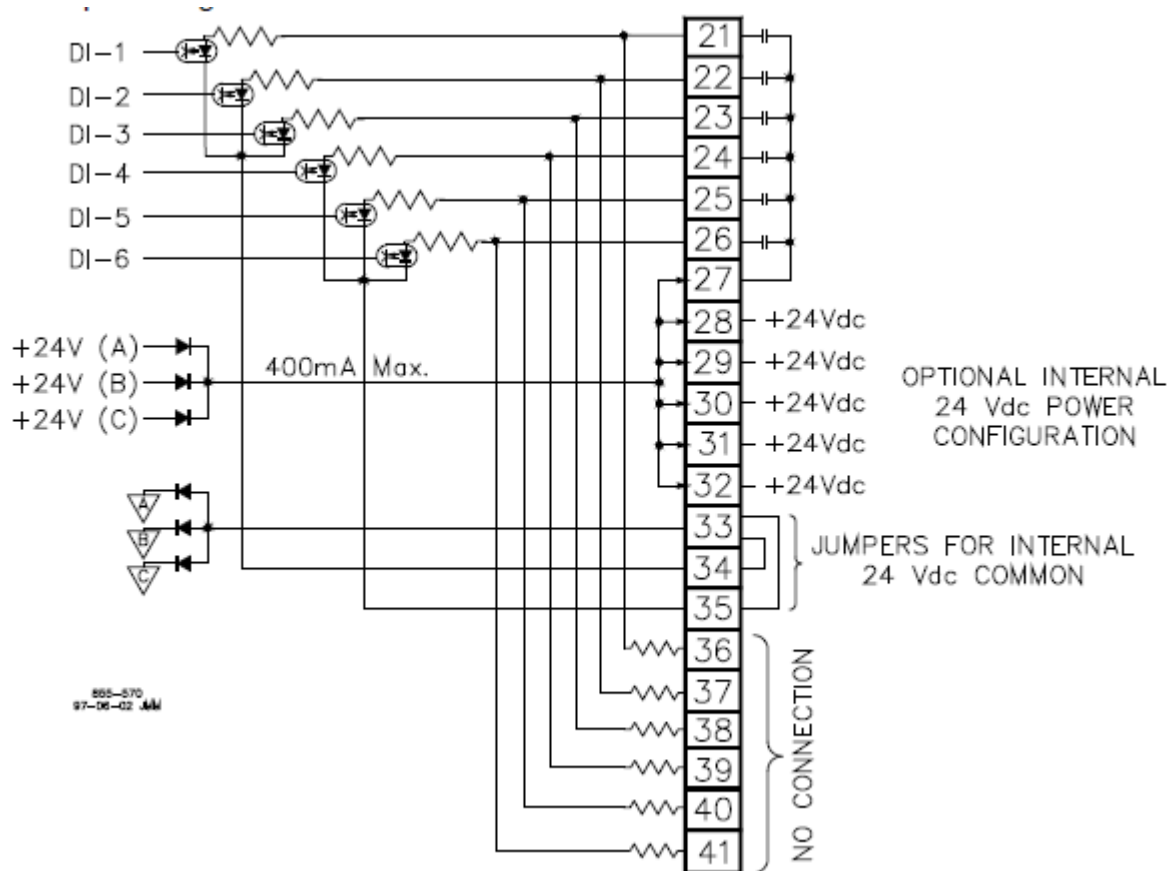

Figure 11-8. Example Discrete Input Wiring Using Internal 24 VDC
- Refer to Figure 11-8 and Appendix E for Contact Input wiring connections to the FTMs. Section 7.2 of manual 26167V1 provides details of using external power or high voltage contacts.
Each relay output can be individually configured to use latent fault detection to identify relay failures without affecting a relay output's state. A fault tolerant relay configuration consists of six relays, driven by two discrete outputs from each kernel. The relays are configured in three legs of two relays each. See Figure 11-8. Customer circuit power is connected to one side of the resulting configuration, and customer load to the other side. Field selectable jumpers, located on system FTMs, are provided to allow each output's latent fault detection logic to be compatible with the circuit being interfaced to.